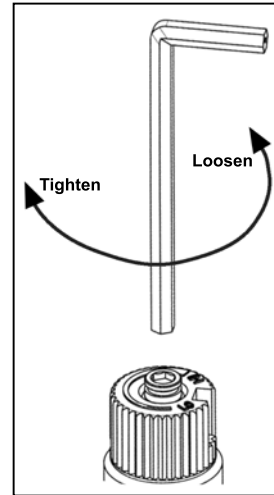

Figure 10: Removing valve screw.
- b) Insert a $\frac{5}{32}$ " or 4 mm Allen wrench into the hexagonal key-way of the screw (see Figure 10), rotate it counter-clockwise until it is free and extract it.
- e) Using the Allen wrench as shown in Figure 10, rotate the screw clockwise until a torque of 9 inch lbs. **WARNING!** Do not over tighten the screw. It is recommended that you grip the wrench by the short side.